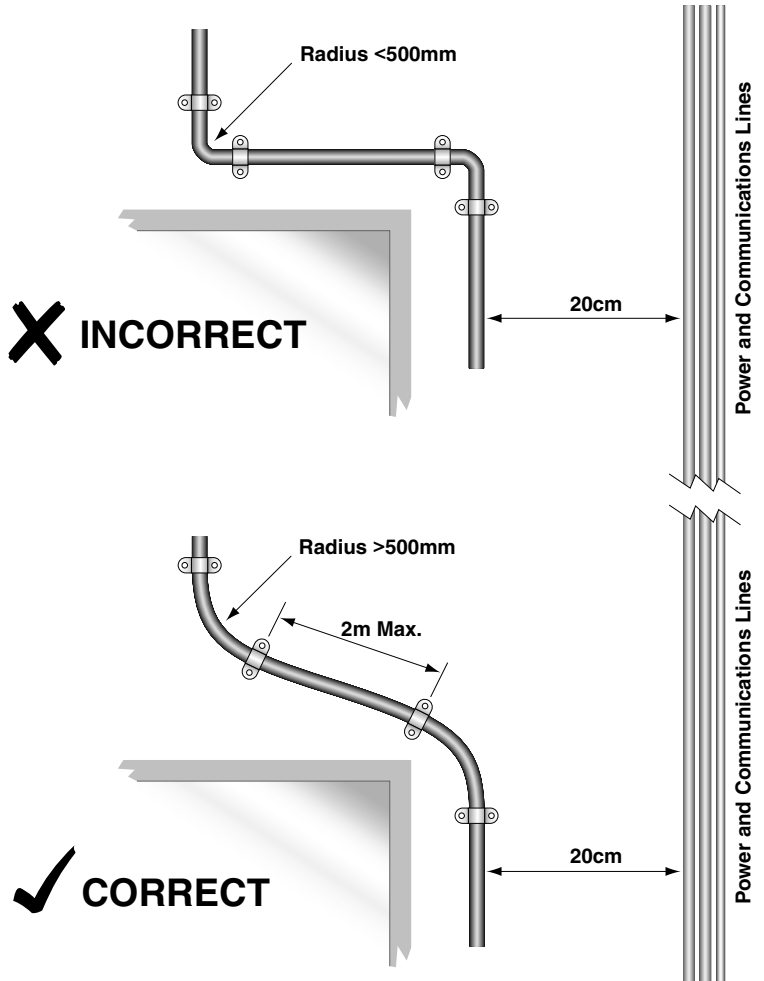

Figure 11.
- Parallel routing with other services – Minimum separation = 20cm. See Figure 11 on page 19.